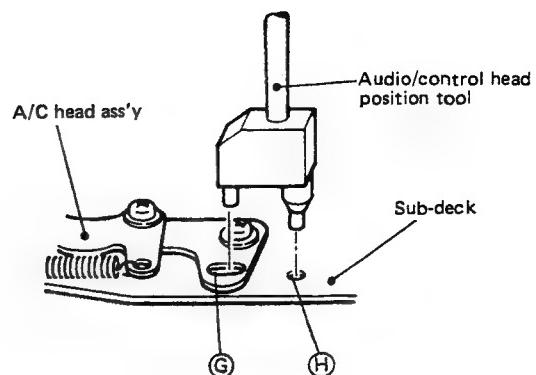

Fig. 2-57
7. Insert the pins of the audio-control head position tool (PUJ44653) into the hole (H) in the subdeck and (G) in the audio-control head assembly as shown in Fig. 2-57.